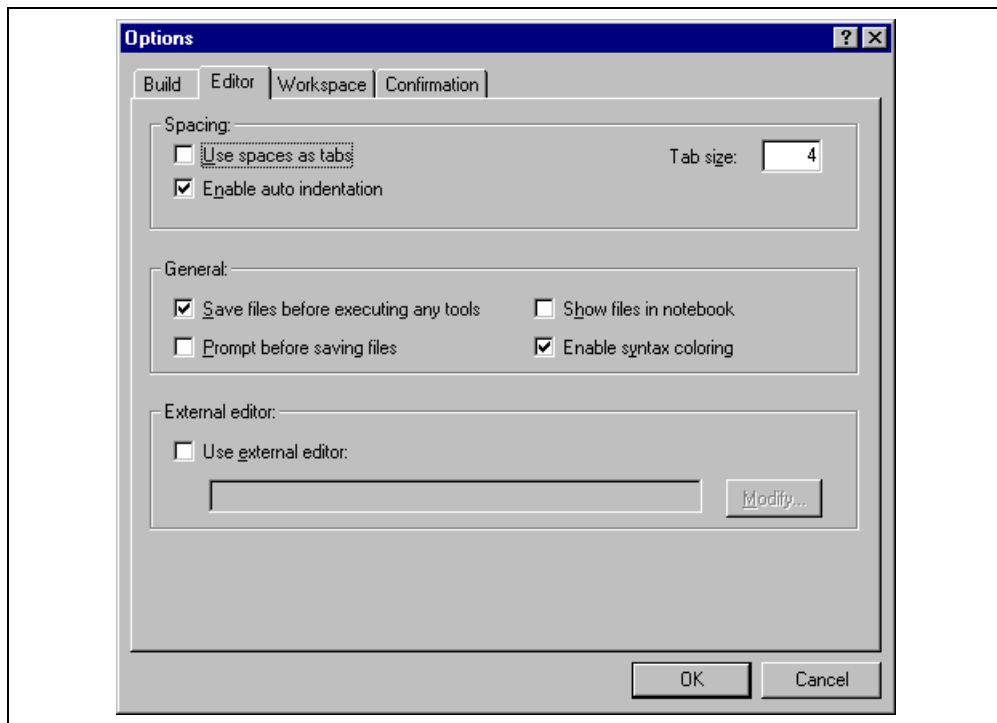

Figure 4.7: Options Dialog Editor Tab
1. Select [**Tools->Options...**]. The “Options” dialog will be displayed. Select the “Editor” tab (figure 4.7).
1. Select **[Tools->Options...]**. The "Options" dialog will be displayed. Select the "Editor" tab (figure 4.7).
1. Select **[Tools->Options...]**. The “Options” dialog will be displayed. Select the “Editor” tab (figure 4.7).